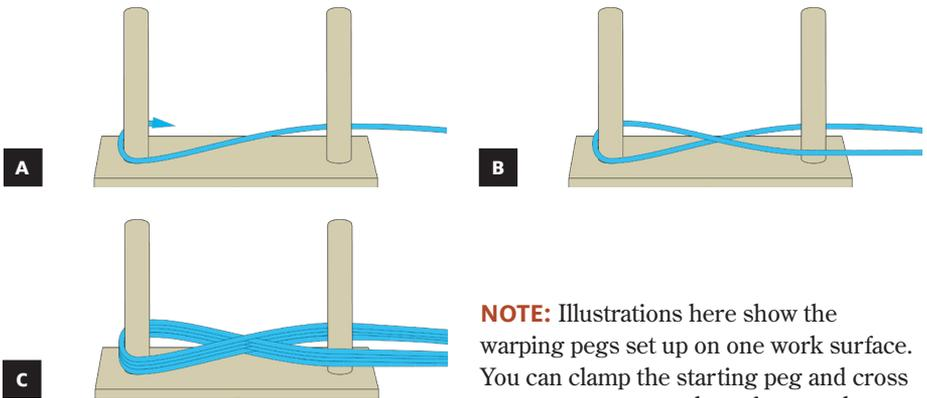

FIGURE 2: MAKE THE CROSS
3. Tie the warp yarn to the starting peg. Carry the warp yarn to the cross pegs. Wind a figure 8 around these pegs, as shown in Figure 2—this forms the cross to keep the warp ends in order. Bring the warp yarn back to the starting peg.